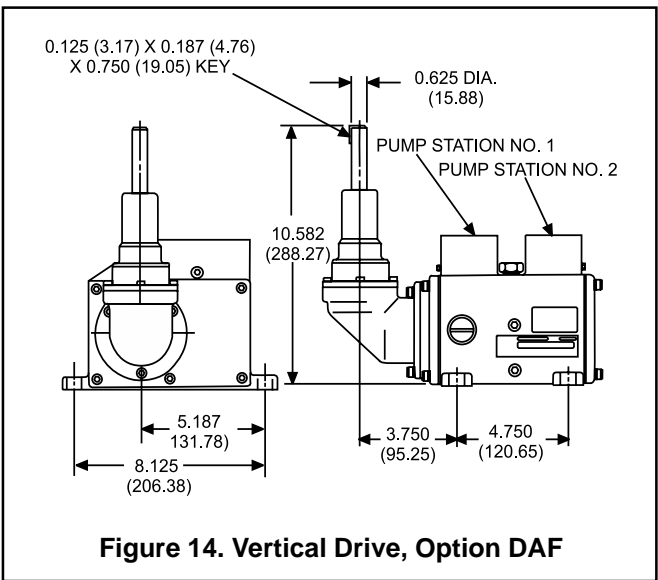

Figure 14. Vertical Drive, Option DAF
**Vertical Drive.** A bevel gear arrangement allows the driveshaft to extend in the vertical direction. The shaft is long enough to allow clearance for connections to the pump. Figure 14 illustrates the vertical drive, option DAF.